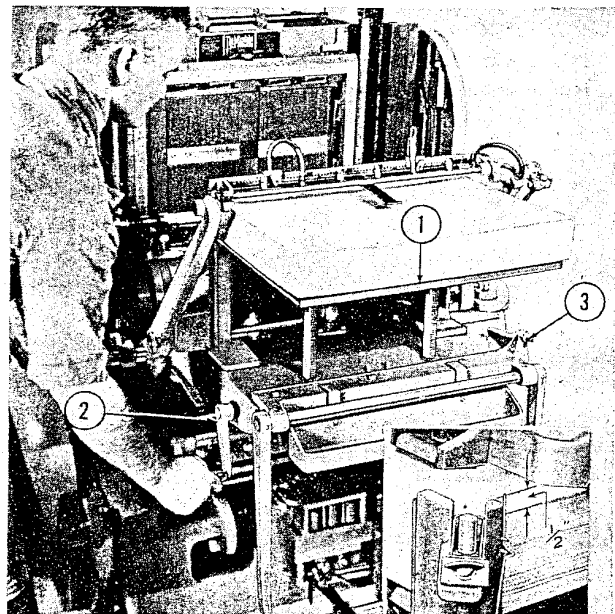

Figure 13—Setting Pile Height
(2) HOW TO SET FEEDER TABLE FOR PILE HEIGHT.—The feeder pile table (1) figure 13, may be raised or lowered manually by means of the feeder table pile adjusting crank, (2) figure 13. Push crank *in* and turn clockwise to raise, and counter-clockwise to lower.
with sheet front corners positioned in front pile guides, raise table until top sheet is  $\frac{1}{2}$ " below top of front pile guides (see insert in figure 13). After height of pile is set, pull out adjusting crank, thereby locking table for automatic raising. If necessary to change pile height, an adjustment screw is provided as shown at 18 in figure 3.
pile table (in this case the guides must be interchanged), the guides may be positioned to accommodate any sheet size (within the range of the V-50) except post card size. For maximum sheet sizes it may be necessary to change the setting of the rear corner pile guide bracket (3) by adjusting the bracket stop stud (see (3) in figure 13) against which the right side bracket bears. For post card size sheets, a special guide is supplied for attaching to the corner pile guide rod. For convenience in loading the pile table, the corner pile guide rod bracket may be lowered out of operating position (see figure 13).